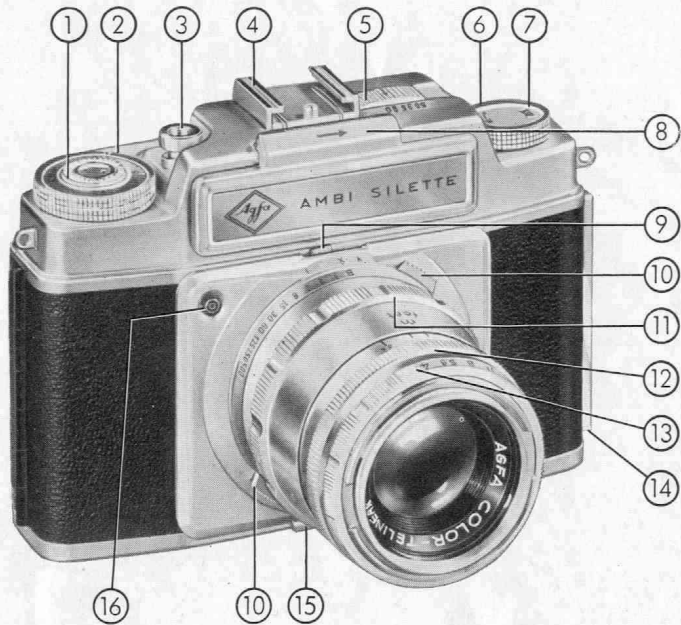
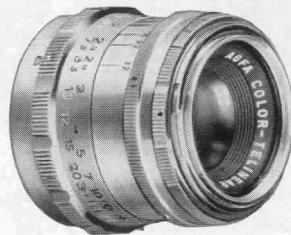

Fig. 1
Fig. 7
A loaded camera should never be left for any length of time exposed to light without its lens. In changing the lens, therefore, do it as quickly as possible and always in the shadow of the body, so that no direct light reaches the unprotected shutter. To remove the lens from its mount, press the catch (see short arrow, Fig. 2) at the same time giving the lens a small turn to the left. In doing so, the lens should always be gripped, as shown, by the fixed milled ring ⑫ (Fig. 1) behind the diaphragm ring. The lens is then simply lifted out while a certain amount of resistance has to be overcome.
When the protecting cover has been opened by pressing it in the direction of the arrow, on looking into the large, brilliant viewfinder of the Ambi Silette the fields of view for the three focal lengths, 35, 50, and 90 mm., will be seen indicated by reflected frames. As already mentioned, these frames can be selected by means of a small slide ⑤ (Fig. 1) on top of the camera, regardless of which lens may be in the camera at the time. This enables the user to examine the subject successively as limited by the respective fields of view, and so to decide which focal length will be most suitable. The accompanying diagram (Fig. 7) indicates which reflected frame corresponds to each position of the slide. It should be noted that the corners of the largest frame (corresponding to the 35 mm. wide angle lens) remain visible even when the frame for the standard 50 mm. lens is reflected; this frame is emphasized by specially thick lines.
If the milled focusing ring ⑪ (Fig. 1) is now moved with the index, or better still, with the middle fingers of both hands (see Fig. 8), the overlapping images in the centre will approach one another and at one position will completely coincide (Fig. 10).